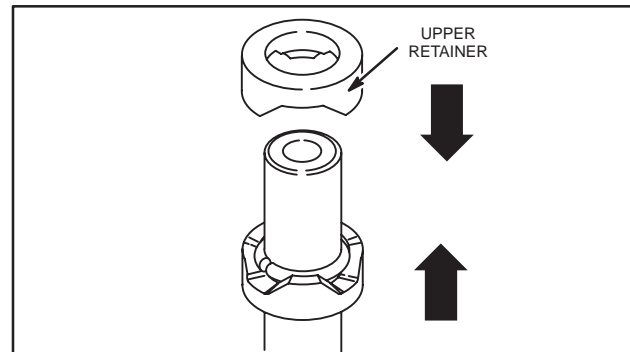

Fig. 57 – Assembling Retainer
5. Install new upper retainer. Push on upper retainer until snap ring snaps into groove in retainer, Fig. 57.